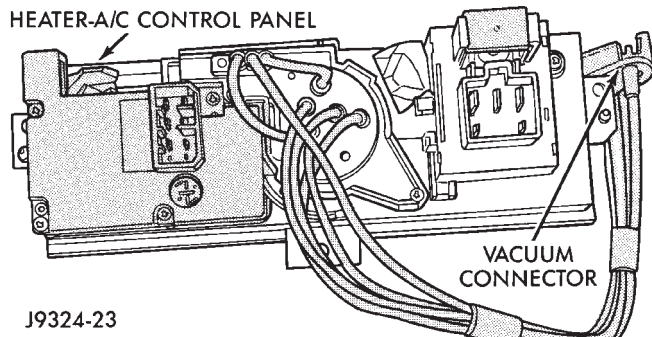

Fig. 41 Heater-A/C Control Connectors - Typical
- (4) Pull the heater-A/C control out from the instrument panel far enough to access the connectors on the back of the control.
- (5) Unplug the wire and/or vacuum harness connectors from the back of the heater-A/C control (Fig. 41).